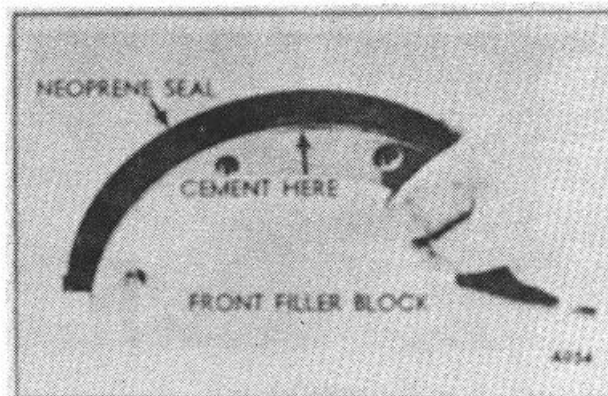

Figure 53.
3. Apply a light coat of non-hardening cement to hold the oil pan to filler block seal. (Fig. 53)